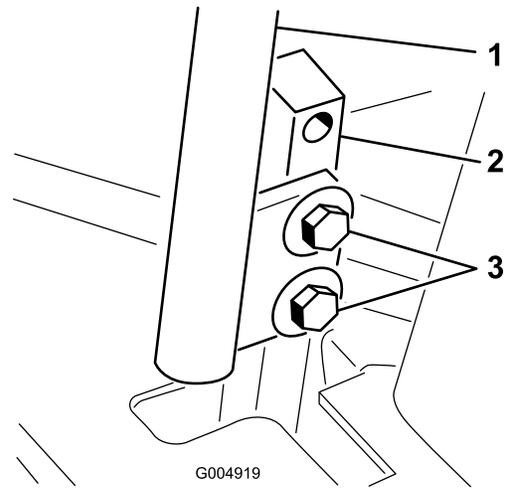

Figure 61
3. Loosen the bolts securing the control levers (Figure 61)